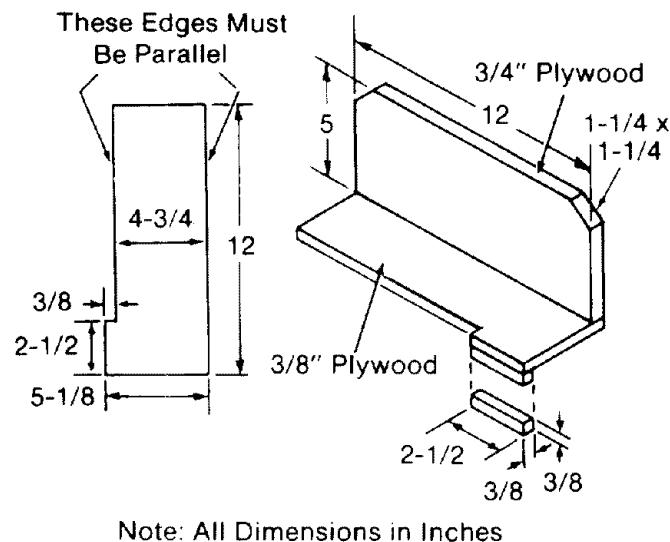

Fig. 139 - Push Block Dimensions
5. Cut out a notch from the 12 inch side of the 3/8 plywood that is 9 1/2 inches long by 3/8 inch wide. The dimensions of the remaining 3/8 plywood are shown in Fig. 139.